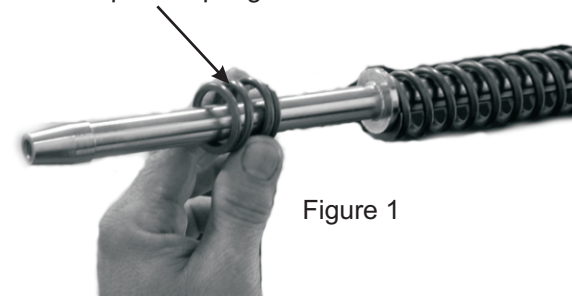

Figure 1
- Put the stock top out spring onto the Progressive Suspension Monotube cartridge assembly as shown (see figure 1) AND one of the supplied "C" shaped preload spacers between the top of the fork spring and the upper spring seat (see figure 2). Then insert it into the fork assembly as shown (see figure 3).